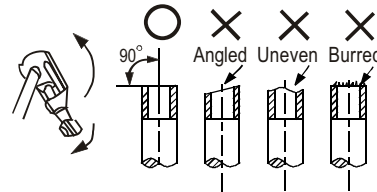

Fig.7-1
- Cut the pipe with an approved pipe cutter (Refer to Fig. 7-1)